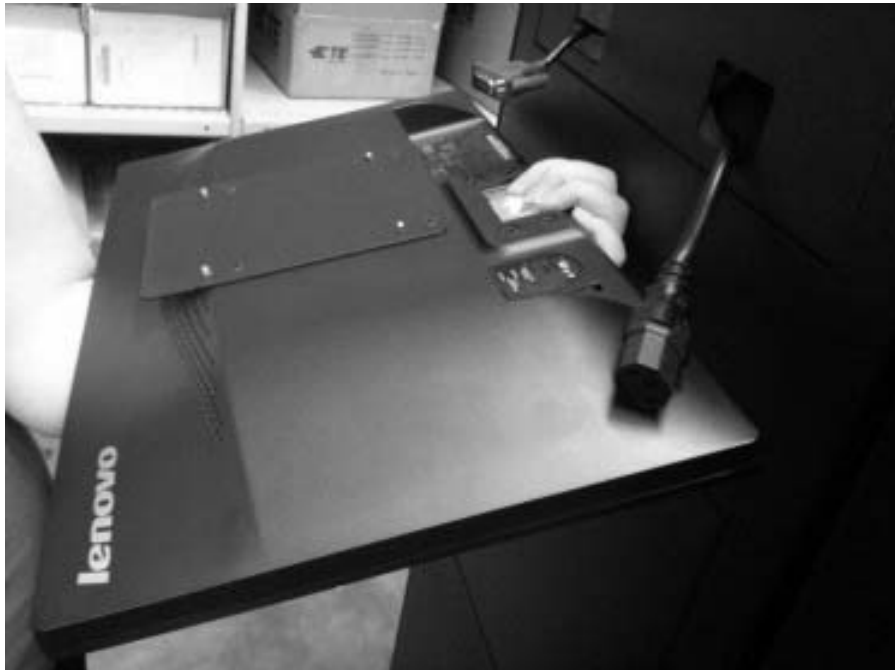

Figure 16. Monitor supported face down next to the IMC side panel
- ___ 4. Carefully supporting the monitor with one arm, hold the monitor with the screen face down and the VGA and power connectors facing towards the IMC side panel as shown in Figure 16 on page 32.